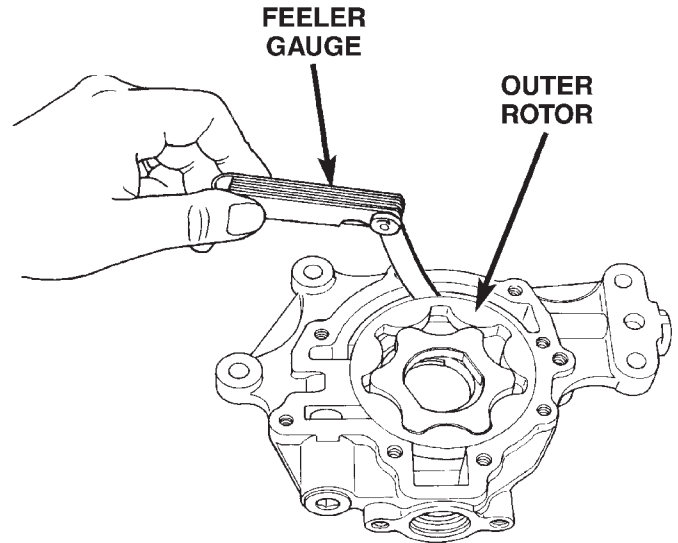

Fig. 96 Measuring Outer Rotor Clearance in Housing
(5) Slide outer rotor into body, press to one side with fingers and measure clearance between rotor and body (Fig. 96). If measurement is 0.39 mm (0.015 inch.) or more, replace body only if outer rotor is in specifications.